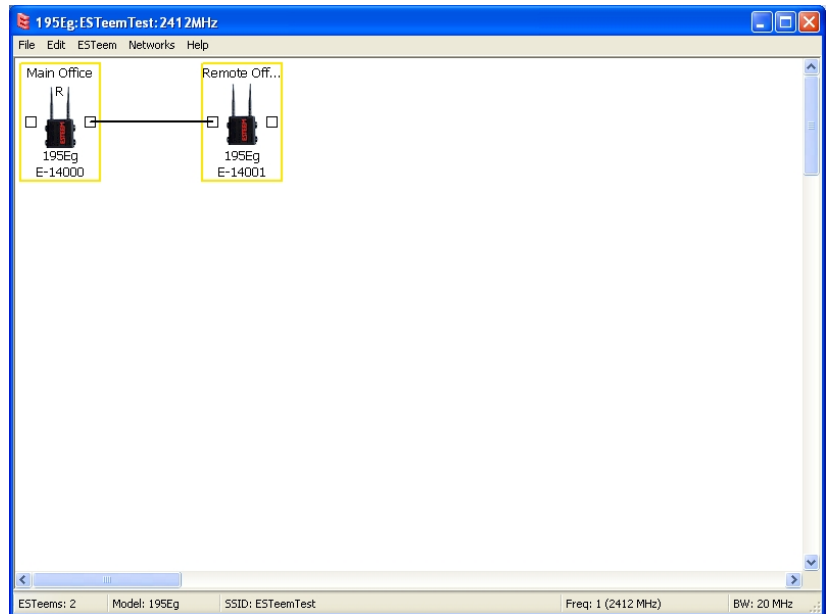

Figure 10: Create Wireless Link
1. Add the two ESTeem Model 195Eas to the network using the above procedure. Once both ESTeem 195Eas are on the configuration page, create a wireless link by clicking on one of the two connection boxes and dragging a line to the other modem (Figure 10).